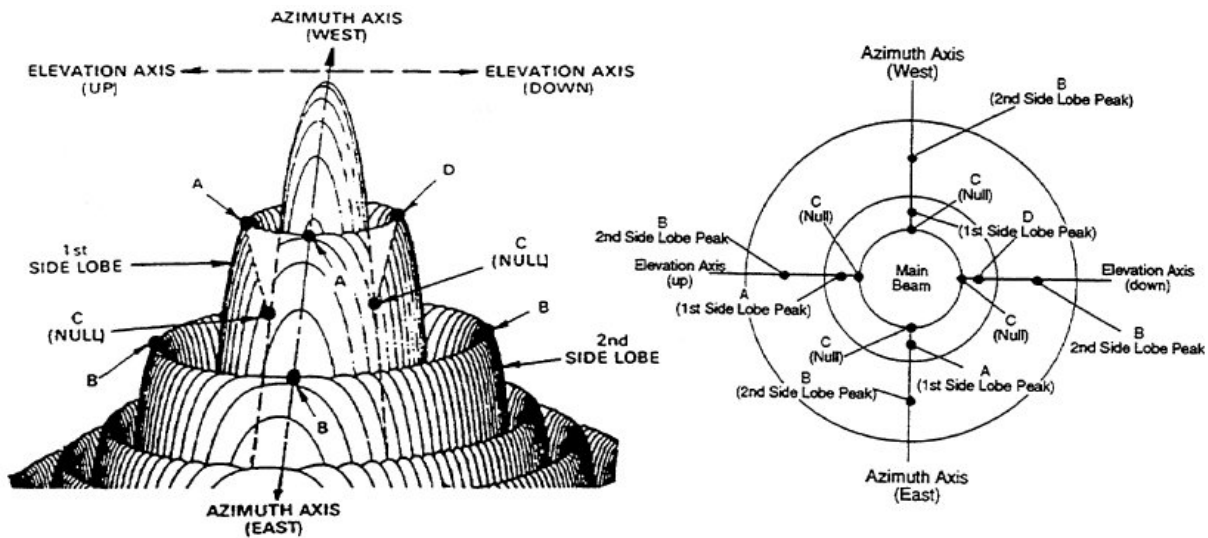

Figure 3-3: Antenna Radiation Pattern Topographical Diagram with Plan View
Step 4 of 9: If the antenna is peaked on a side lobe in Az or El, move the antenna Azimuth while observing the Spectrum Analyzer screen, as illustrated below in Figure 3-3.